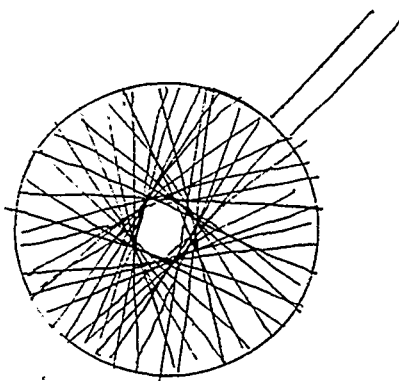

Figure 2
3) Holding the yarn with your thumb, wind the yarn vertically around the ball, pulling firmly. Each time you pass over the top of the ball, do so slightly off center, about 1/8". This technique will be used to form the "crown" of the mallet (see Figure 2). Count the number of revolutions you used to cover the ball to the desired thickness and use that number as an